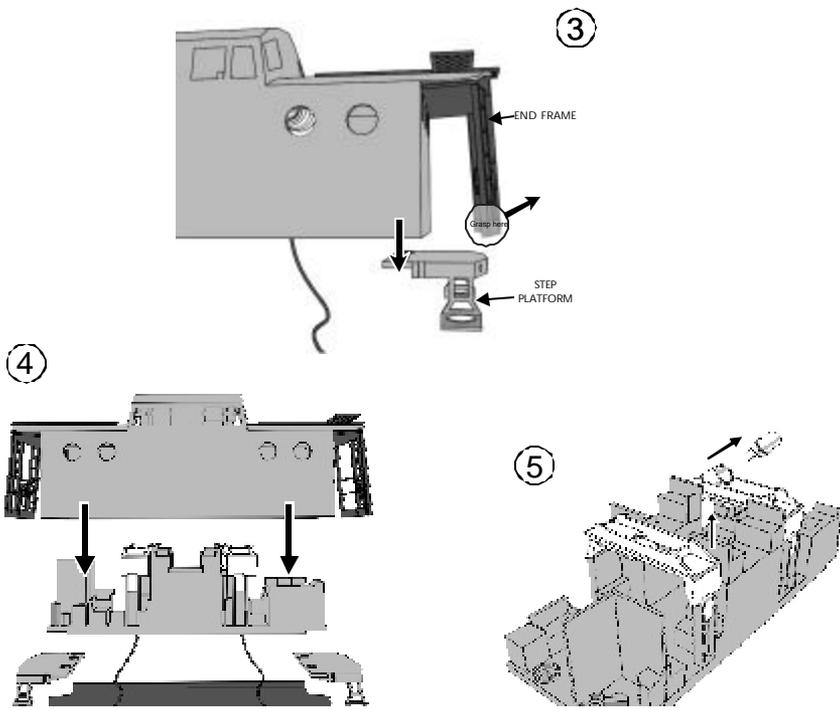

Figure 15-3,4,5. Next three Steps of Changing the Caboose Lights
3. To be able to separate the interior from the shell you need to remove the step platform from both ends. In order to do this you need to loosen the end frames from the step platform. You must do this carefully so that you don't break them. Grasp the end frame by the bottom and pivot outwards 5°. You can then remove the step platforms (figure 15-3).